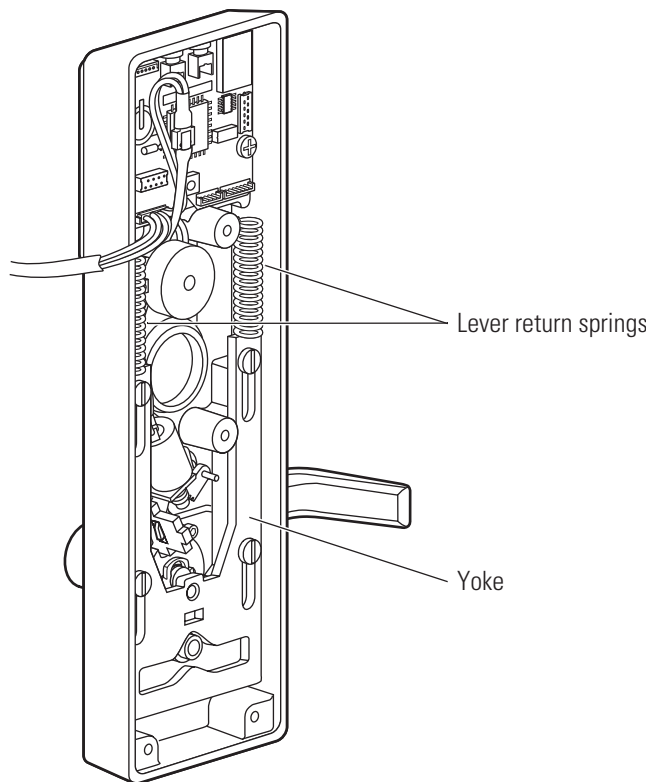

Figure 10.5 Removing and reinstalling the lever return springs escutcheon (B.A.S.I.S. shown)
1. With the posts on the mounting plate inserted in the lever return springs, slide the mounting plate into the escutcheon. See Figure 10.5.
2. Remove the lever return springs from the yoke. See Figure 10.5.
1. Install the lever return springs onto the yoke posts. See Figure 10.5.